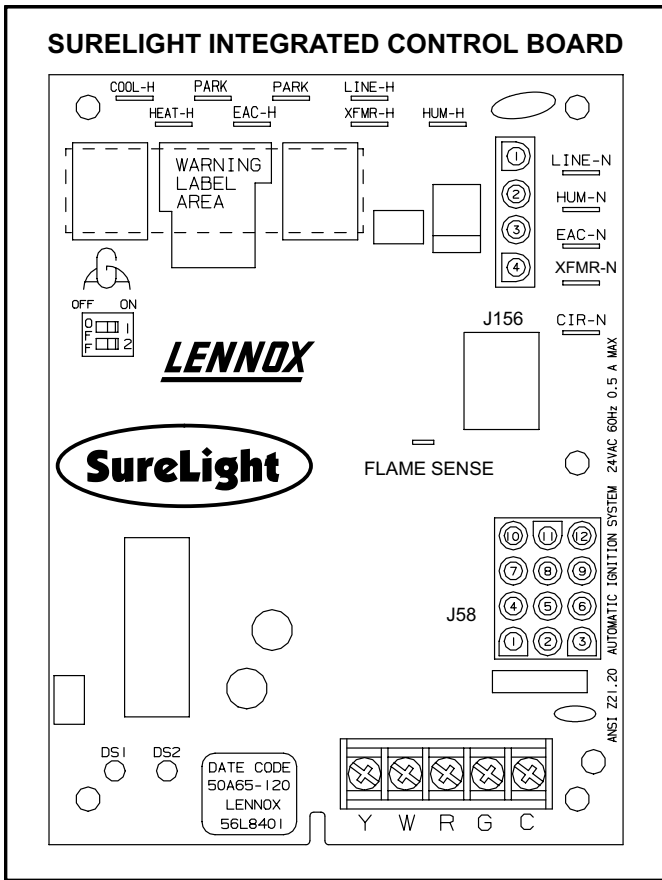

FIGURE 5
The Lennox SureLight ignition system consists of ignition control (figure 5 with control terminal designations in table 1), sensor (figure 10) and ignitor (figure 11). The ignition control and ignitor work in combination to ensure furnace ignition and ignitor durability. The ignition control, controls all major furnace operations. The ignition control also features two LED lights for troubleshooting and two accessory terminals rated at (1) one amp. Tables 2 and 3 show jack plug terminal designations. See table 4 for troubleshooting diagnostic codes. Units equipped with the SureLight system can be used with either electronic or electro-mechanical thermostats without modification. The SureLight ignitor is made of durable silicon-nitride. Ignitor longevity is also enhanced by voltage ramping by the ignition control. The ignition control finds the lowest ignitor temperature which will successfully light the burner, thus increasing the life of the ignitor.
Make sure to Identify LED'S Correctly. Refer to figures 5 and 8 for control board layout.